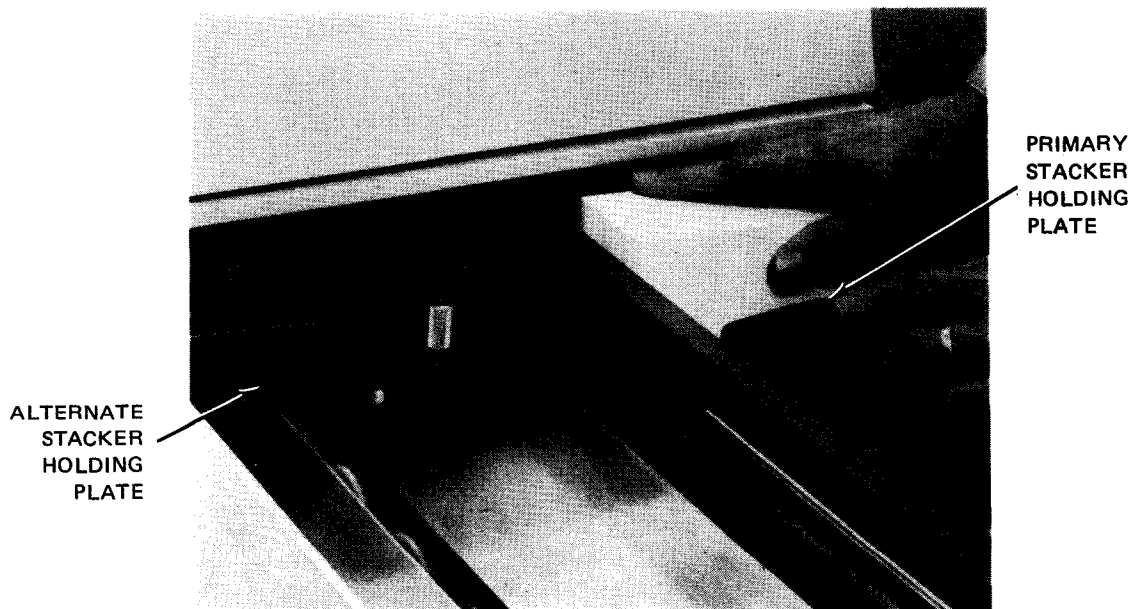

Figure 6—7. Removing Cards from Stacker
3. With card feed follower plate in position (Figure 6—6d), place cards against card feed follower plate. Maintain pressure at the bottom of cards.
4. Raise the card feed follower plate (Figure 6—6c), draw it backward then lower it so that it presses against the newly-loaded supply of cards.
1. While maintaining a slight pressure on card backs, retract stacker holding plate and grasp a quantity of cards nearest to holding plate (Figure 6—7).